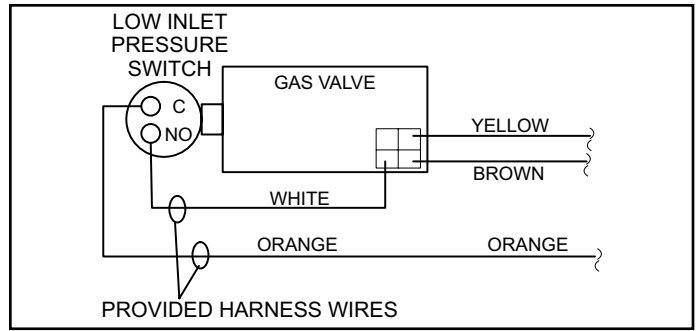

Figure 12. Low Inlet Pressure Switch Point-to-Point Wiring Diagram (White Rodgers Gas Valve)
a. Thread pressure switch to fitting 2 to 3 turns past hand tight, then wire as shown in Figure 12.